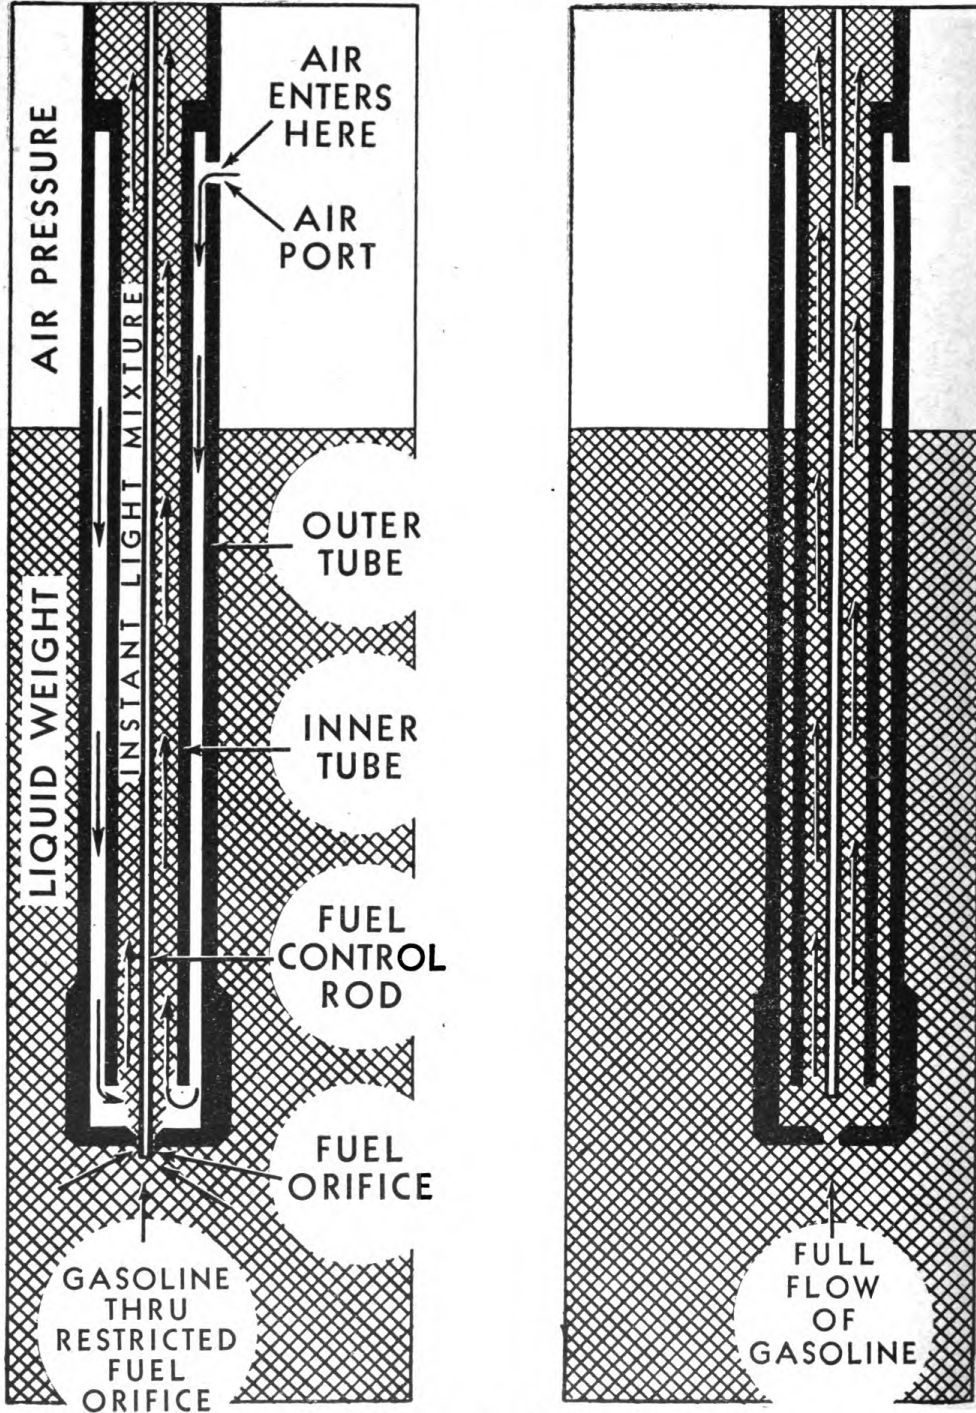

Figure 11. Cross-section of fuel and air tube.
the fuel control rod (fig. 11) restricts but does not entirely close the fuel orifice (fig. 11). Opening the fuel control valve a quarter turn permits the air in the tank above the fuel to enter the air port (fig. 11). The air travels down between the outer and inner tubes of the fuel and air tube. Owing to the weight of the liquid fuel, a restricted amount of fuel enters the fuel orifice, and is picked up by the air at the bottom of the outer tube. The air and fuel form an atomized instant light mixture which rises in the inner tube. Because air is withdrawn from the tank above the liquid fuel to form the instant light mixture, the pressure will drop faster during this period than during subsequent normal operation when the fuel control valve is open as far as possible.
b. After the burner or stove has reached complete generation, which is within the first 5 or 6 minutes, the fuel control valve may be opened as far as possible. This permits the withdrawal of the fuel control rod from the fuel orifice (fig. 11), allowing a full flow of fuel. As the size of the fuel orifice is greater than that of the gas orifice in the vaporizer (fig. 12), the fuel is forced into the space between the outer and inner tubes, stopping the flow of air from above the liquid fuel in the tank, and causing the fuel to be fed direct to the vaporizer.